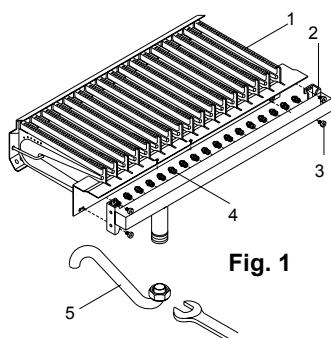

Fig. 1
- undo the gas pipe 5 (fig.1) from the burner manifold using a size 24 spanner;